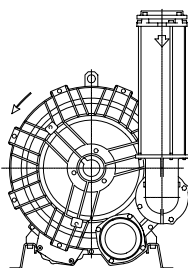
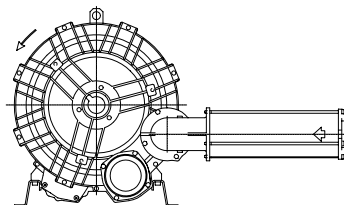

Fig.2
Fig.3
3. Select the desired orientation (see Fig. 1, Fig. 2, Fig. 3).